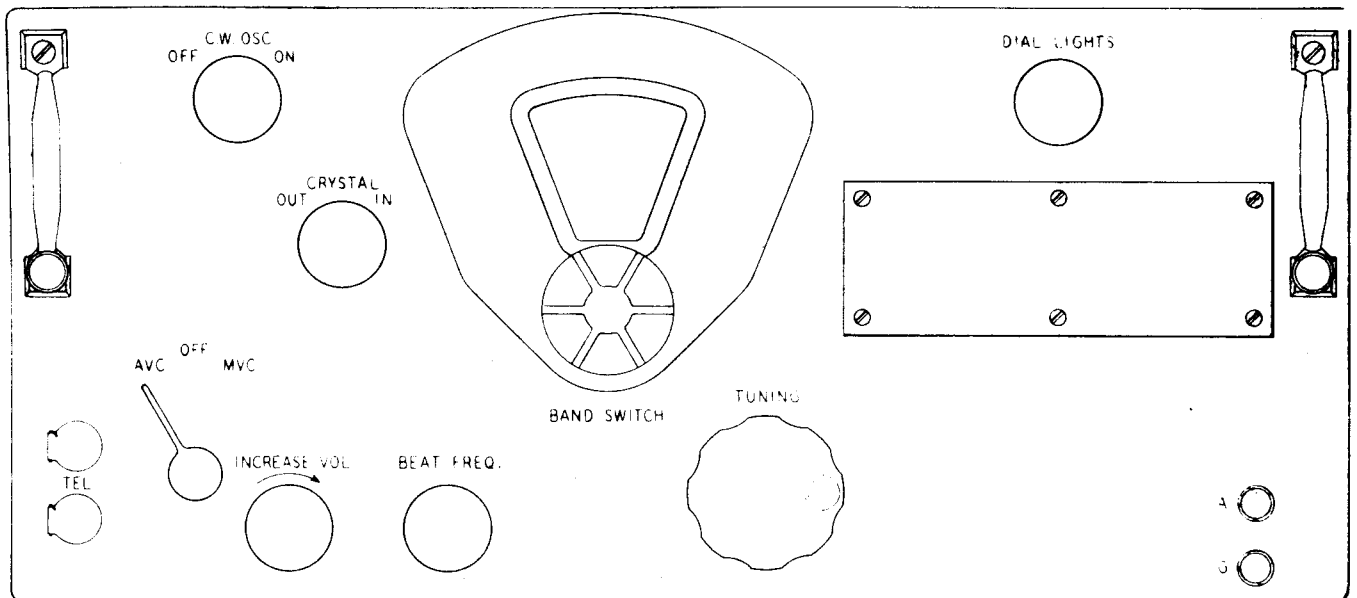

Figure 3 — Radio Receiver BC-348-J, View of Front Panel
- (1) Check the connections at the aircraft power supply.
- (2) Check the connections at the transmitter relay.
- (3) Check the connections at the interphone system, if used.
- (4) Check the power connections to auxiliary equipment, if used.
- (5) Check the antenna and ground connections.
(6) Make sure the thumbscrew rods holding the chassis in the cabinet are tight.
(7) Make sure the snapslides are locked and secured with safety wire.
b. **CONTROLS.**—The operator should become thoroughly familiar with the controls on the front panel (see Figure 3) and their function before beginning the operating test.